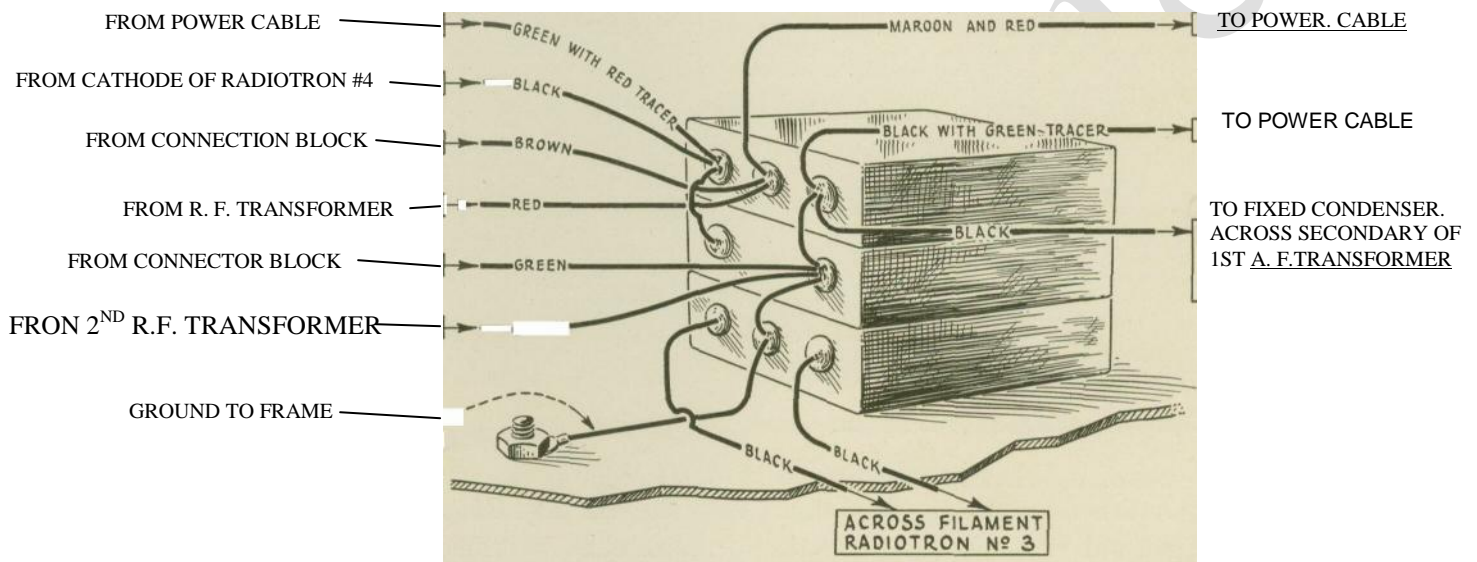

Figure 21 – Connections and color scheme of wiring to by-pass condensers
7. Reconnect all wire leads removed from the large fixed condensers. The correct connections are shown in Figure 21.